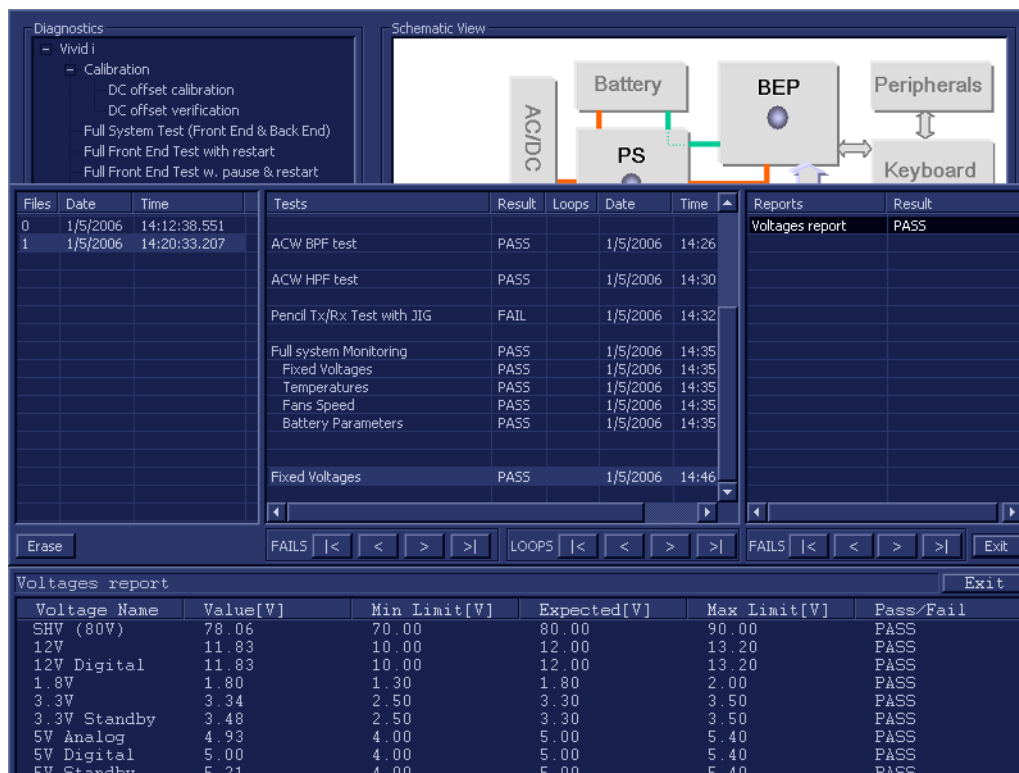

Figure 7-65 View Test Log - Fixed Voltages Test
- the View Test Log window opens automatically, listing all tests performed and showing details of which tests passed or failed, as shown in the example in Figure 7-65.
- 7.) Check that the test passed and that result values are within the pre-defined *Max* and *Min* limits, as shown in Figure 7-65.